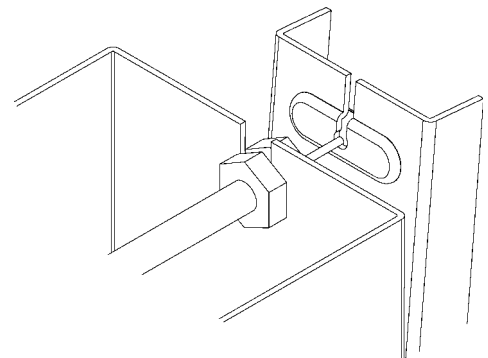

FIG. 12
1. Assemble the operating cable to the fountain bracket. (Fountain should be mounted to exterior wall) Create a loop in the cable and thread the free end of the cable through the wall into the freeze resistant box. The adjustment nuts should be in the middle of threaded area on the operating cable. See Figure 12